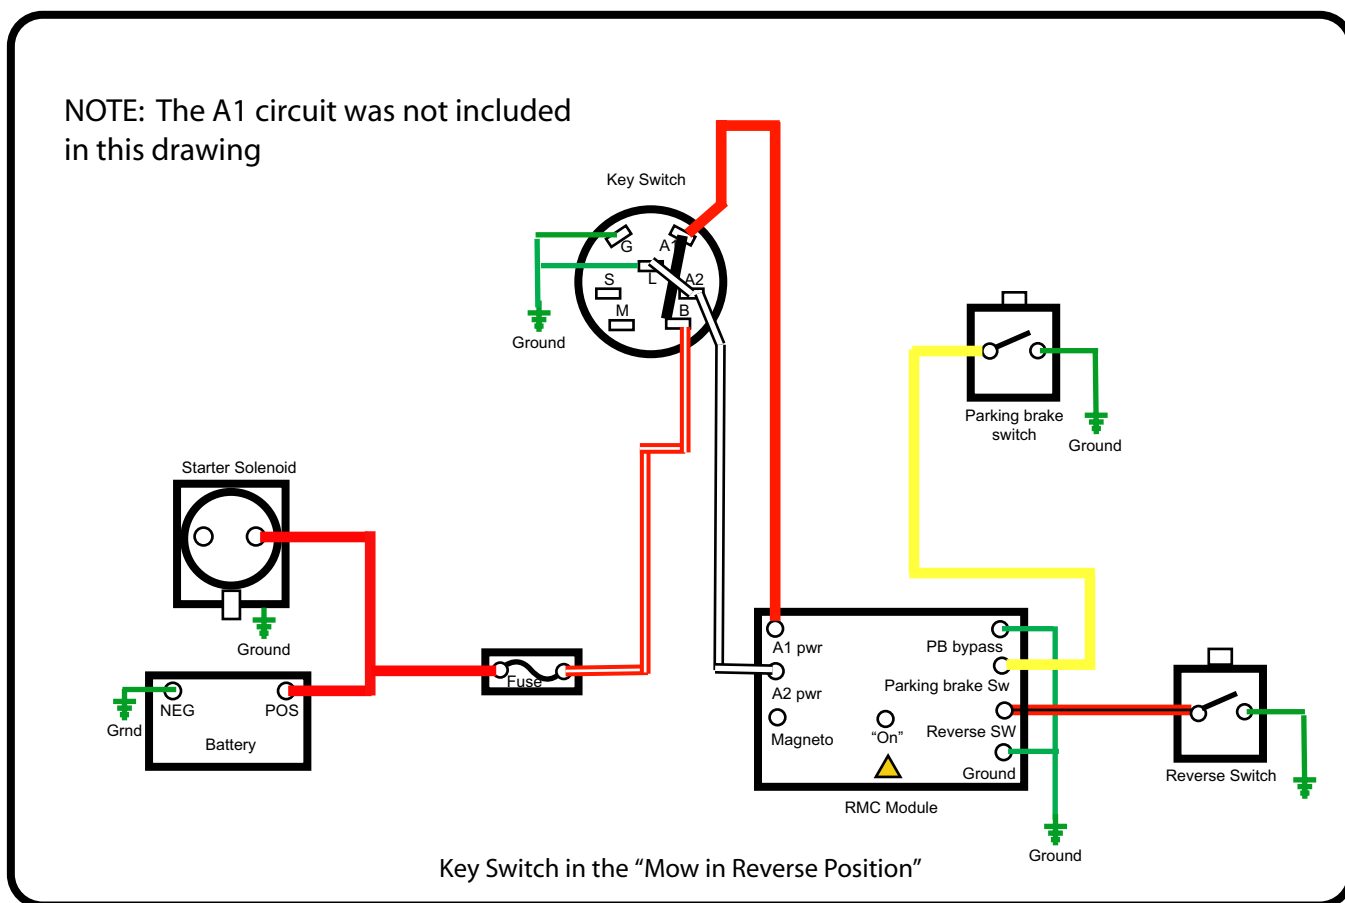

Figure 7.24
3. The OCR module arms when it gets a ground signal from A2 through the white wire to the "A2 pwr" terminal on the OCR module. See Figure 7.24.